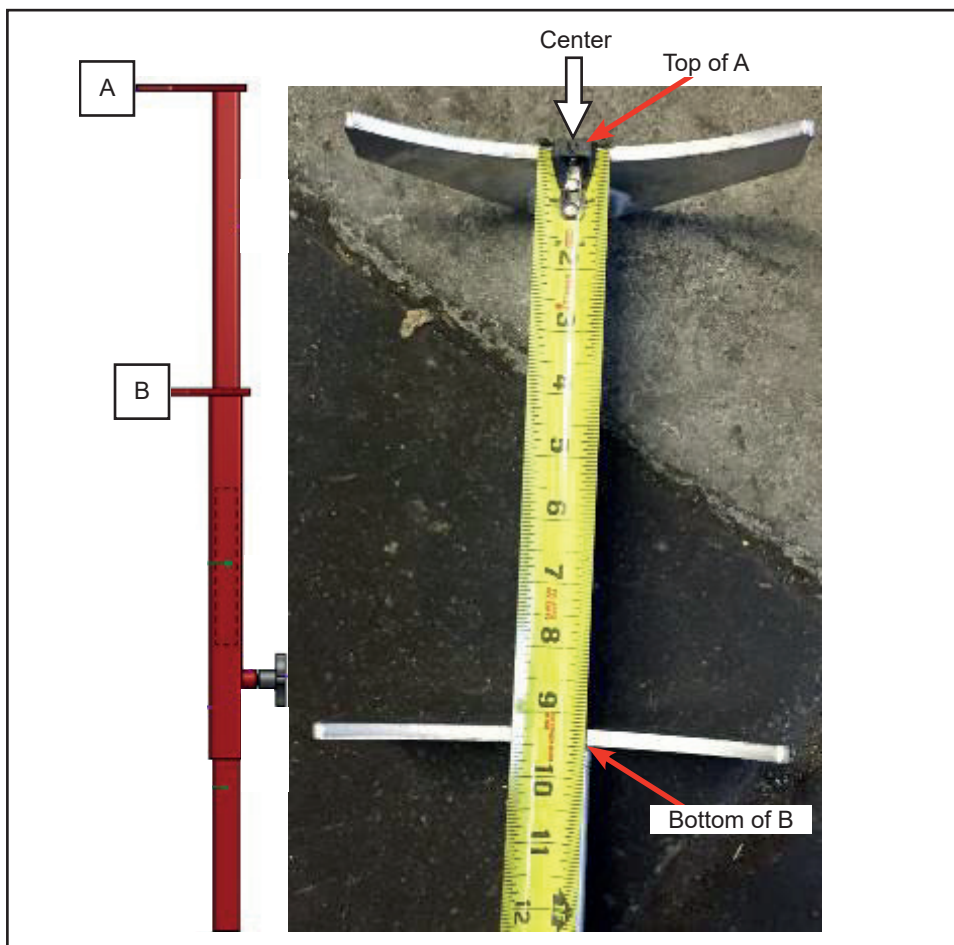

Figure 4 - Measuring the Distance From Top A to Bottom B
- 1.12. After removing the jig, measure the distance from the top of A to the bottom of B at the center of the jig using a measuring tape (See Figure 4). Confirm that the plate x plate distance is within the specification shown on table 1.